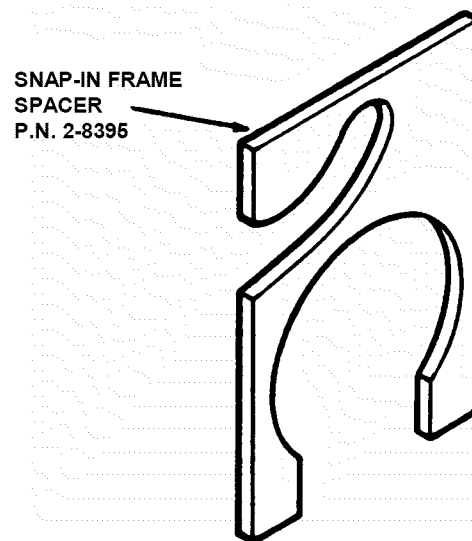

FIGURE 4.7
7. Install required number of snap-in frame spacers behind channel pivot until the 1-1/4" distance between belt is maintained. See Figure 4.7.